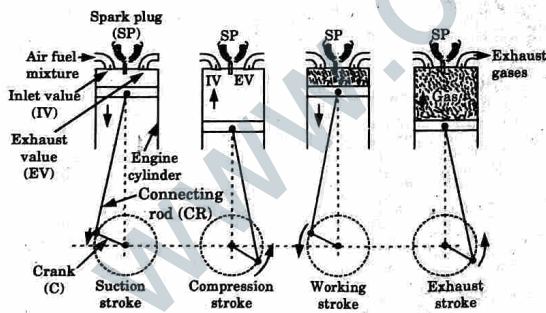

Fig. 1.23.1. Four stroke Otto cycle engine.
- Suction stroke (Fig. 1.23.1) starts when the piston is at top dead centre position and about to move toward bottom dead centre.